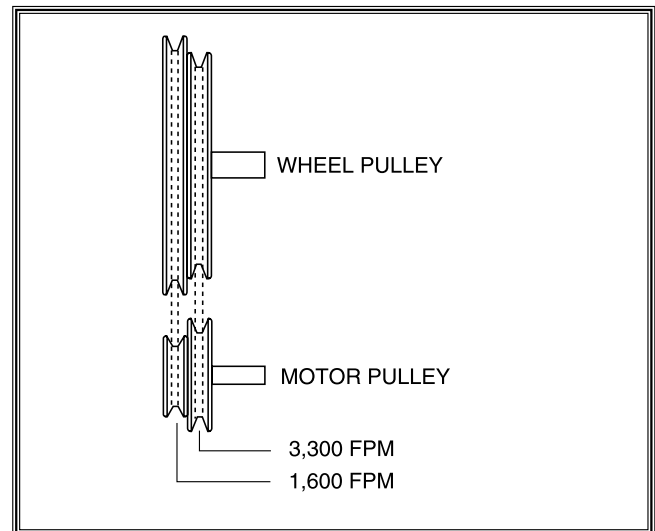

Figure 22. Feet Per Minute (FPM) pulley ratios.
The FPM pulley ratio diagram on **Figure 22** illustrates the belt positions necessary to produce the 1,600 and 3,300 FPM blade speeds. Select the proper pulley ratio for the cutting job and move the belt to the desired pulleys.
4. Move the belt to the required pulley ratio. See **Figure 22**.